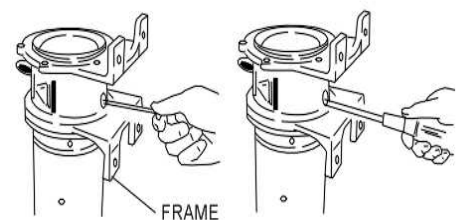

Figure 14
- Remove the drive magnet assembly (232). Stand the motor up and remove two M8 hex head socket set screws (908.1) from the access hole in the frame (19). Insert a screwdriver and apply it to the boss (lower portion) of the outer magnet assembly and pull or lever the unit upwards. [Fig. 14] Store the magnet assembly in a proper place so that metal pieces, etc. are attracted to it.